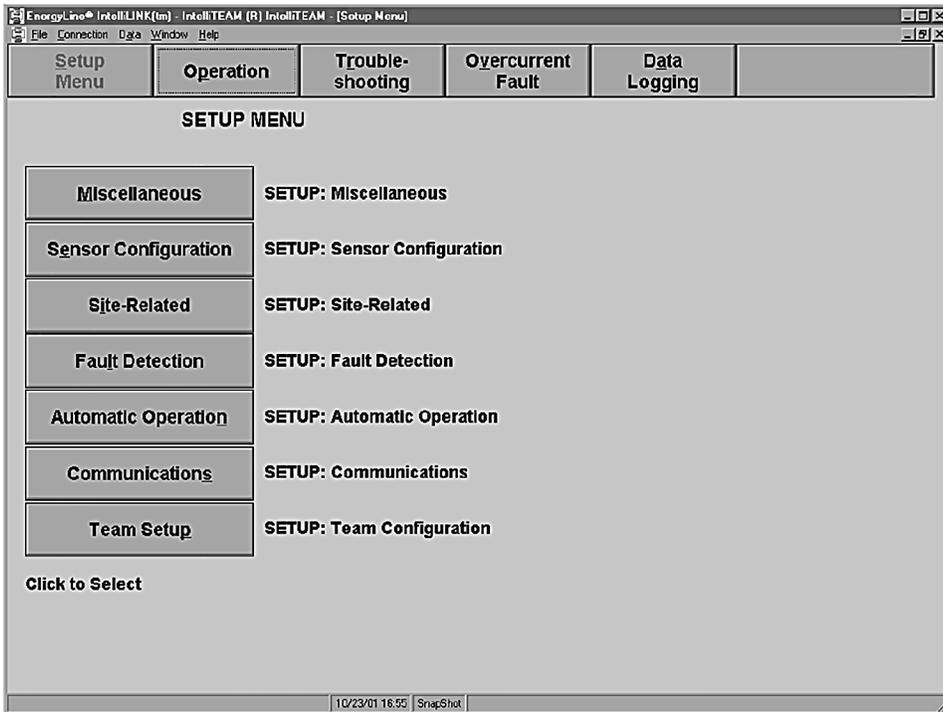

Figure 4. The Setup Menu screen.
- STEP 2.** At any IntelliLink software screen, click on the **Setup Menu** button to display the *Setup Menu* screen. See Figure 4 on page 11.